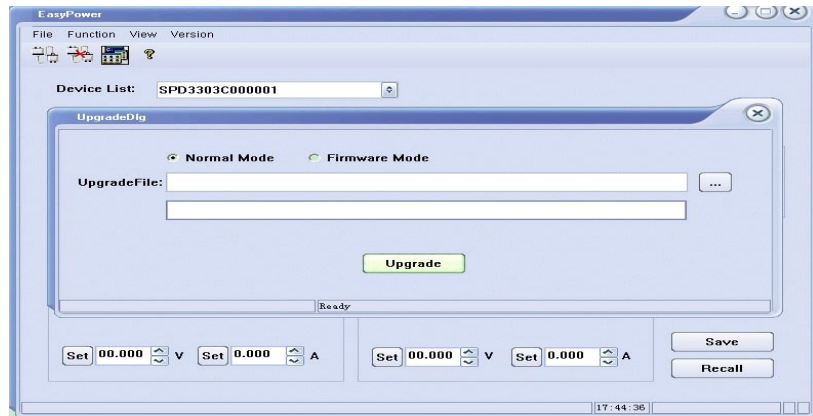

Figure 2
2. As shown in figure 2, select the “Firmware Mode” option instead and the following upgrading steps are the same as method 1.